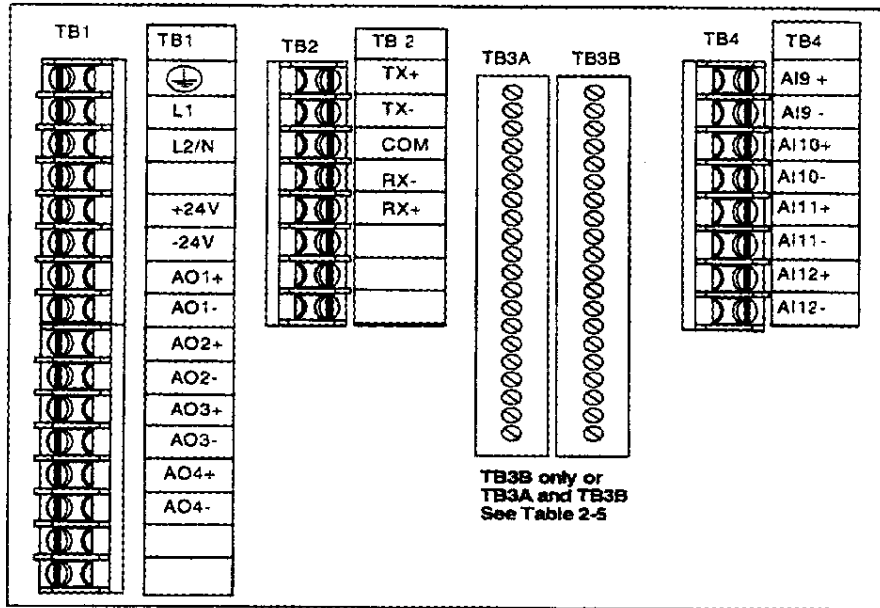

Figure 2-5 Terminal Connections (TB3A & TB3B)
See Table 1-1 Specifications for acceptable voltage and current signal inputs. Connect current and voltage inputs to the appropriately labeled terminals as in Figure 2-5.
2. When required, current shunts are mounted on these terminals, see Figure 2-5. Use Part No. 311285 for 4-20 mA input conversion to 1-5V.